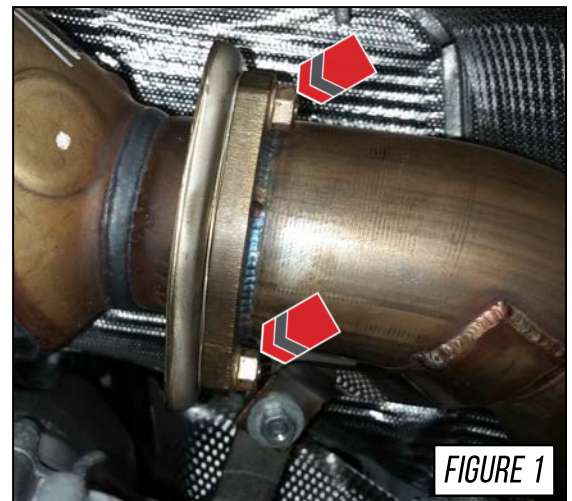

FIGURE 1
Start by removing the two (2) 12mm nuts at the exhaust flange behind the catalytic converter, as shown by the arrows in **Figure 1**. These are best accessed under the hood from the driver side, reaching across the backside of the engine; the third bolt is accessed under the car.